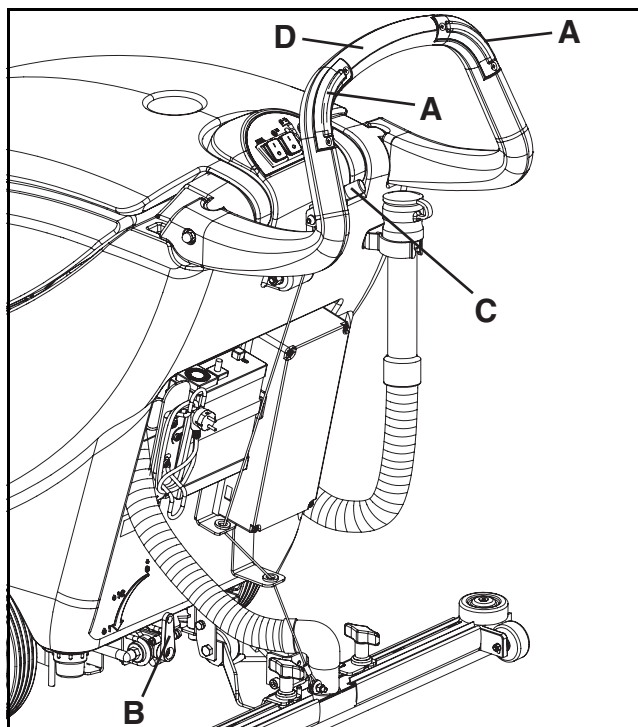

Figure 18
2. While keeping both hands on the handlebar (D, Fig. 18), move the machine and start scrubbing/drying the floor.
- When the machine is stopped, stop the brush/pad by releasing the switches (A, Fig. 18).
Before lifting the brush/pad, stop its rotation by releasing the switches (A, Fig. 18).
3. If necessary, adjust the solution flow sent to the brush/pad by turning the lever (B, Fig. 18).
2. Lift the squeegee by pushing the lever (C, Fig. 18) upwards.